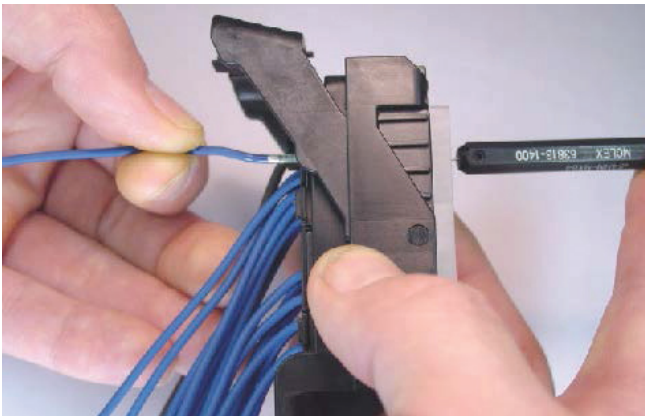

Figure 8
8. Once the terminal lock finger has been disengaged, transfer middle finger and thumb to connector housing, while maintaining the index finger pressure on the the tool. Pull on the wire to remove the terminal. **Reference Figure 8.**